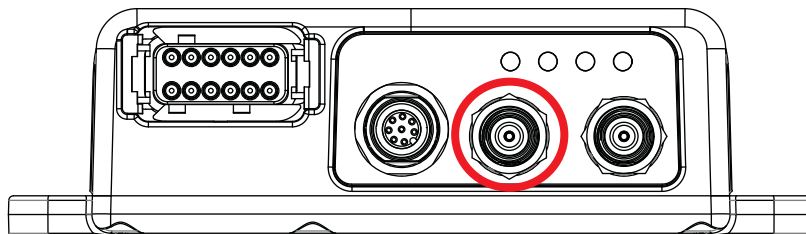

Figure 9: Primary Antenna Connector
- Connect the antenna cable to the primary antenna connector circled in red in Figure 9.